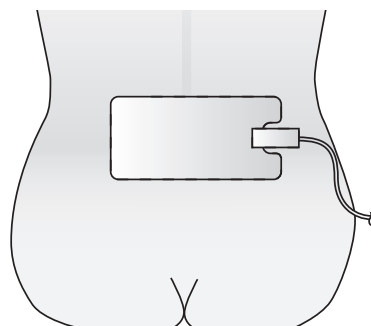

Figure 4-6. Position Return Electrode at Lower Back.
- a. Have the return electrode cable side face toward the radio frequency generator. Then, place the return electrode horizontally across the lower portion of the small of the back directly above the buttocks as shown in Figure 4-6.